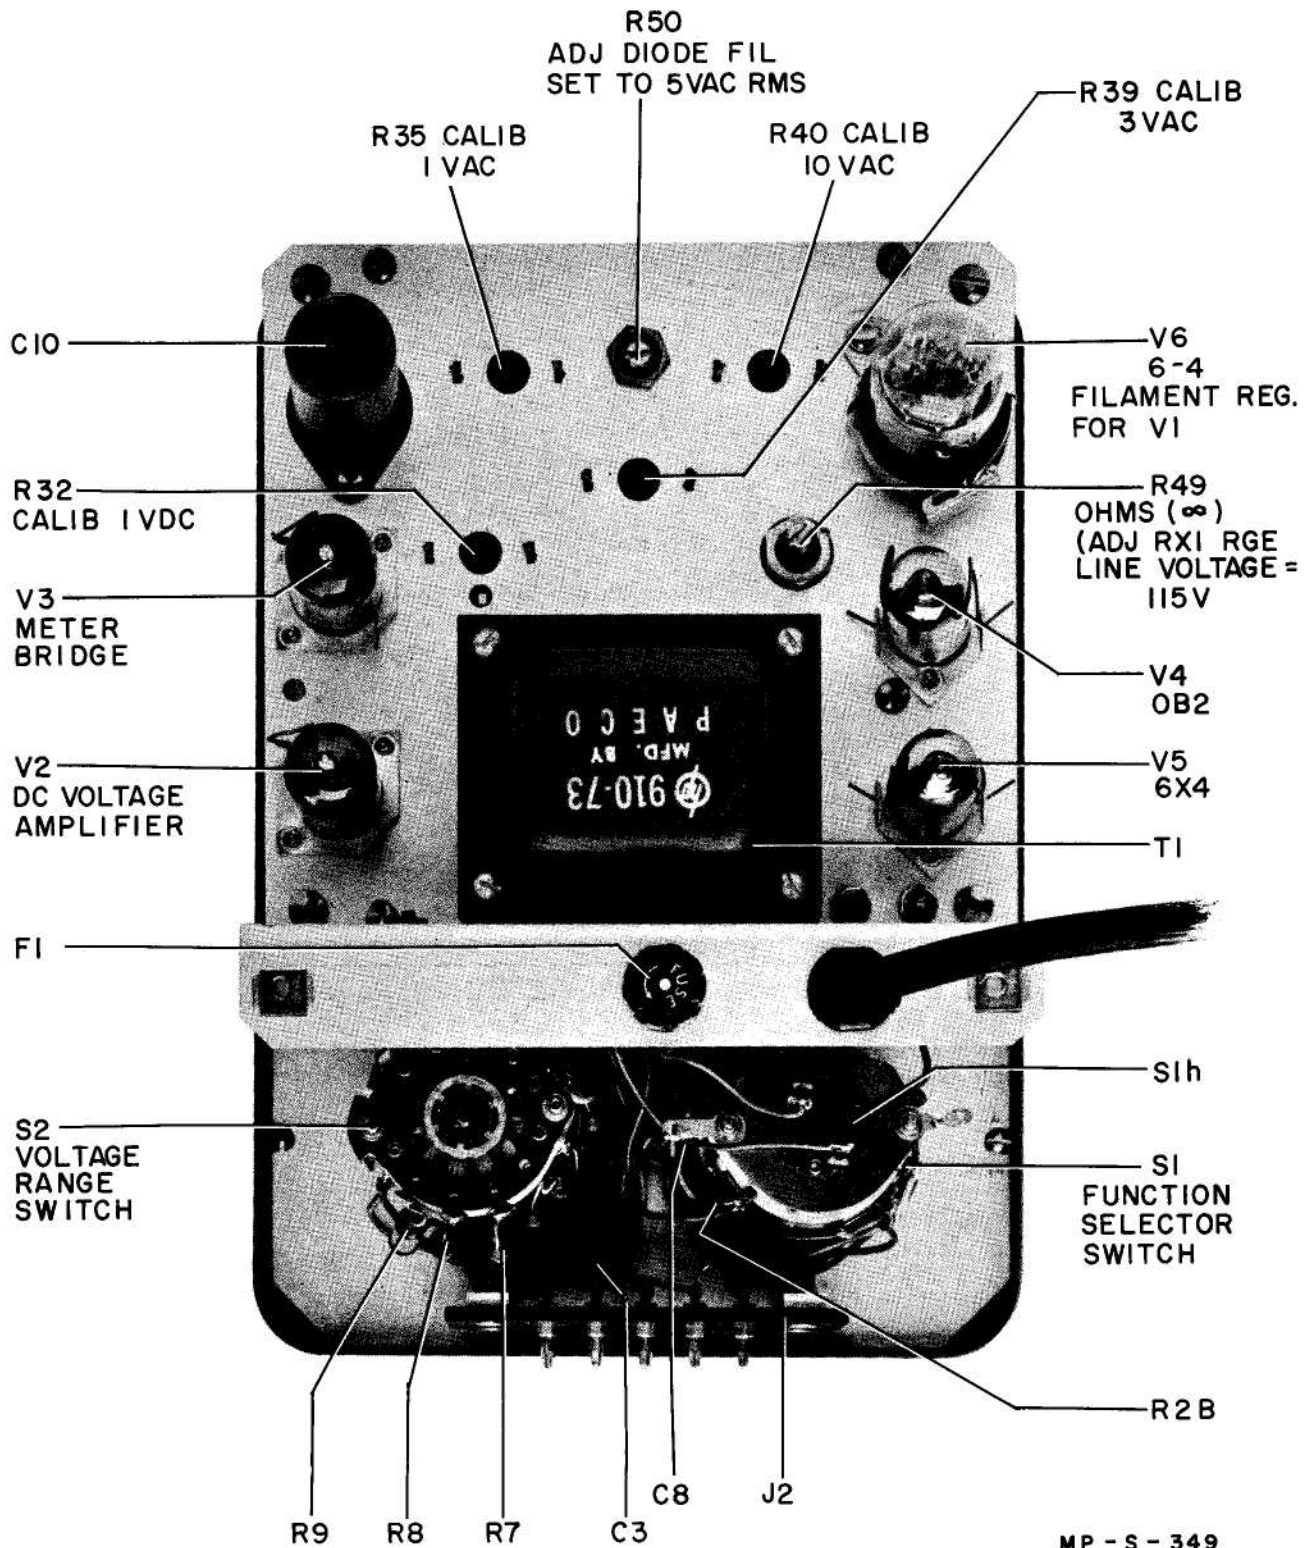

Figure 4-2. Rear View of Model 410B Chassis Removed from Instrument Case
e. Apply exactly 1 volt d-c to the d-c test leads. This 1 volt value can be obtained using a battery and potentiometer arrangement. The voltage applied to the voltmeter should be monitored and adjusted using the precision d-c meter described earlier. With exactly 1 volt applied to the multi-meter the meter pointer should indicate an exact full-scale reading on the uppermost scale. If necessary, adjust R32 through the back of the instrument to make the meter read exactly full-scale. R32 is identified in Figure 4-2 and by appropriate markings on the back of the instrument.